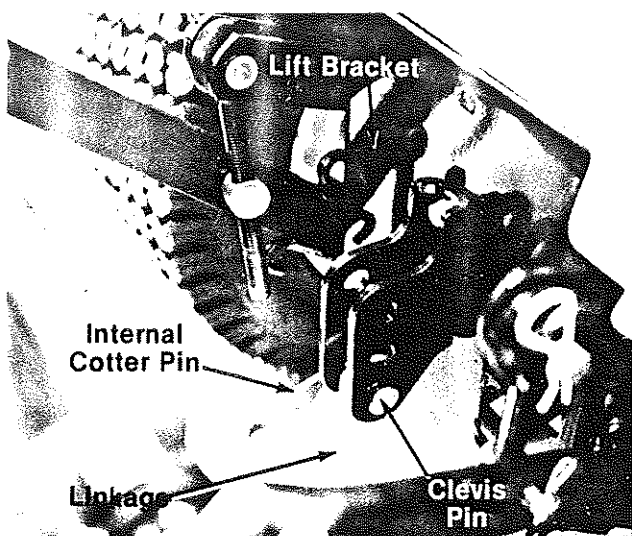

FIGURE 13.
17. Assemble linkage from tiller to lowest position on lift bracket on the three point hitch and secure with clevis pin and internal cotter pin used with the clevis tubing assembly, removed in step 8. See figure 13.